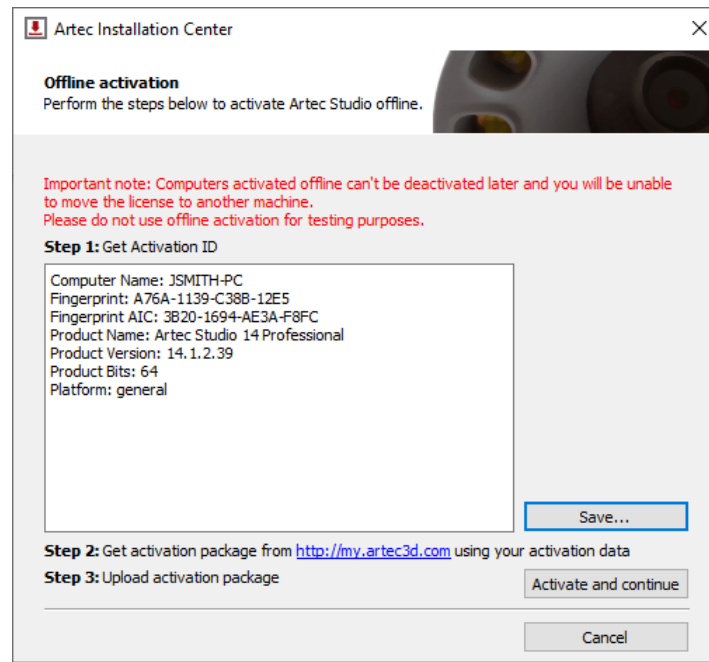

Figure 42: Offline-activation window
4. In the offline-activation dialog (Figure 42), click *Save...* and save generated Activation ID file to a flash drive or other storage medium.